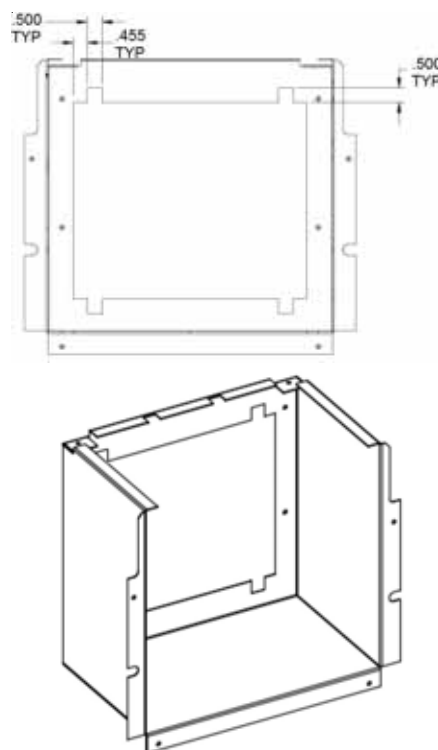

Figure 21
NOTE: On earlier (M) models it may be necessary to notch or cut heater kit shroud to accomodate screws in heater (Figure 21).